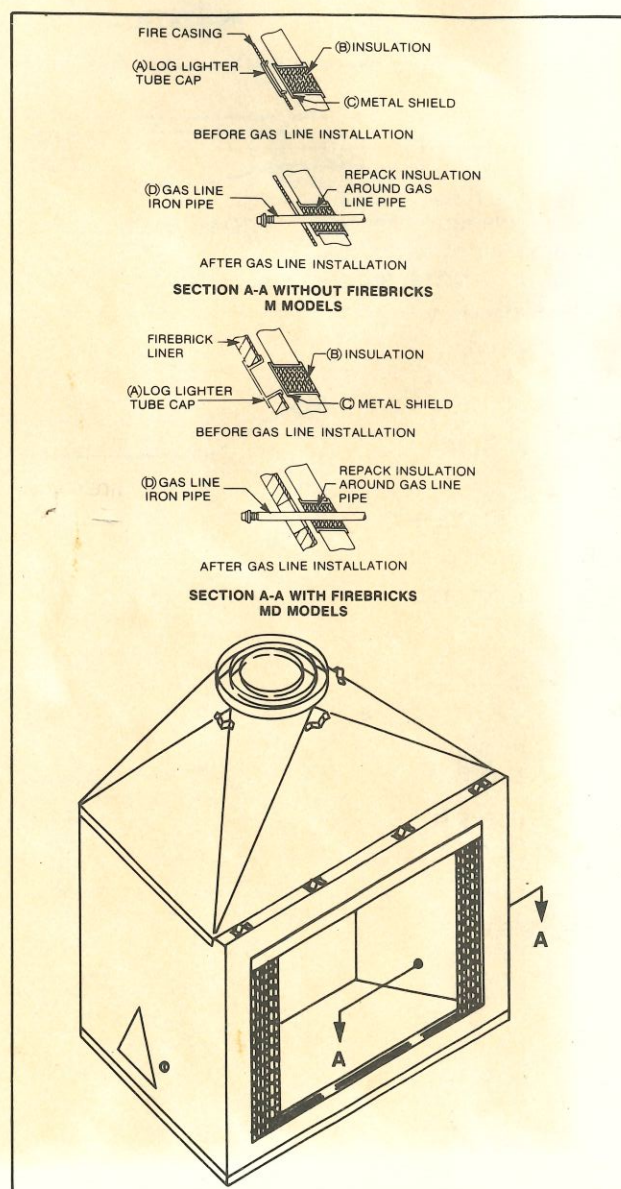

Fig. 22. Install iron pipe gas line through provided hole in both sides of fireplace.
Remove the log lighter tube cap (A) located on either side of the fireplace. Remove the insulation (B) from the log lighter tube, working from the outside of the fireplace. Forceably push out the internal metal shield (C) using a probe or piece of iron pipe. Insert a 1/2-inch iron gas line (D) from the outside of the fireplace through the log lighter tube. Repack insulation around the gas line from outside the fireplace. CAUTION: Make sure the insulation completely seals the space around the gas line. See Fig. 22.